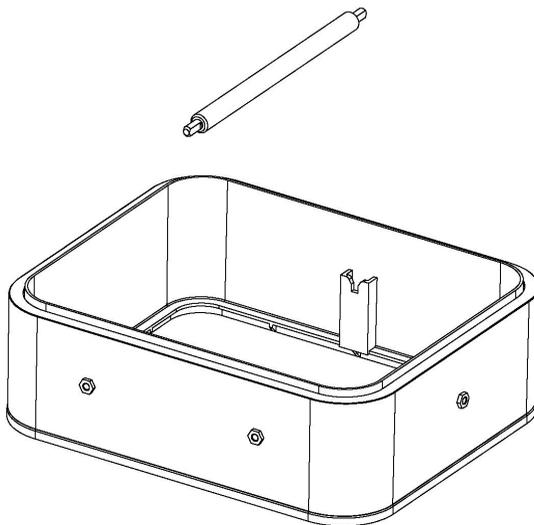
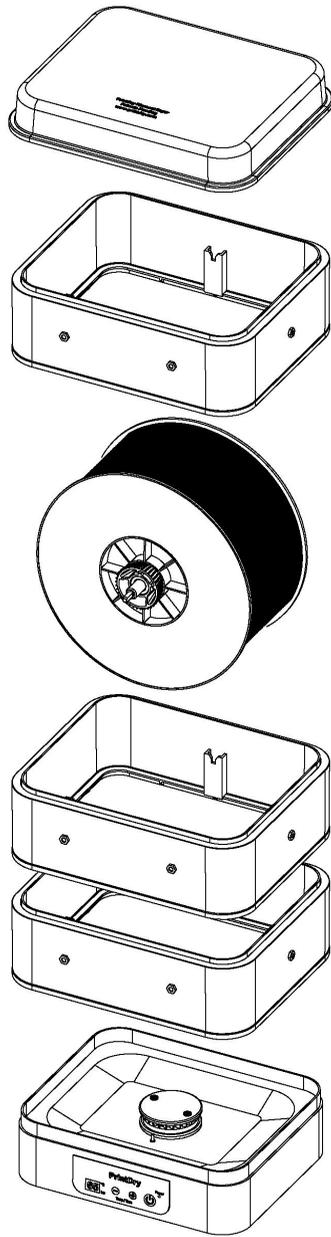

Fig.8 Optional Large Spool Kit (LSK-PRO)
Fig.9 Use of Large Spool Kit (Optional)
1 large vertically mounted spool with max OD of 304mm (12"). See Fig.9
- A large spool kit (Fig. 8) is necessary in order to mount a large filament spool with the max. OD of 304mm (12") into a standard dryer, as show in Fig.9. Please visit our website for more information.